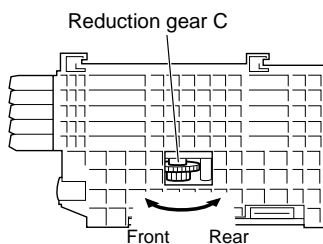

Figure 2
3.1. How to remove CD Disc. (See Fig. 2~5)
If the gear up down board is located at tray No. 1 position, then rotate gear clock-wise until is at stalk position. Rotate reduction gear D (Figure 2) to move the CD mechanism to tray No. 3 position.